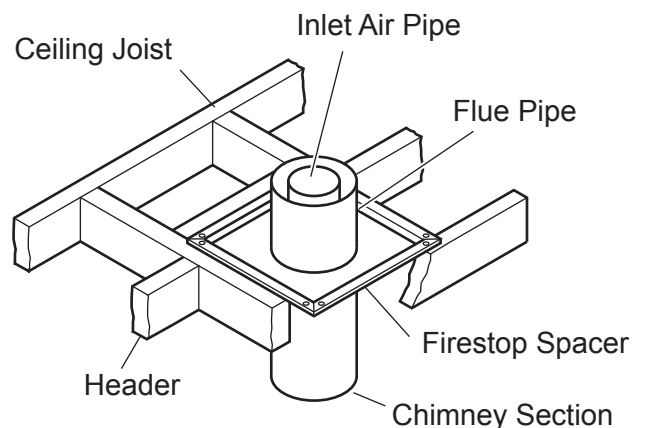

Figure 18 - Installing Firestop Spacer at Attic Level
In an attic, install firestop spacer at the floor level of attic. You must have joists or headers on all four sides of the spacer. Use a minimum of four (4) 8-penny nails to secure the spacer. See *Figure 18*.